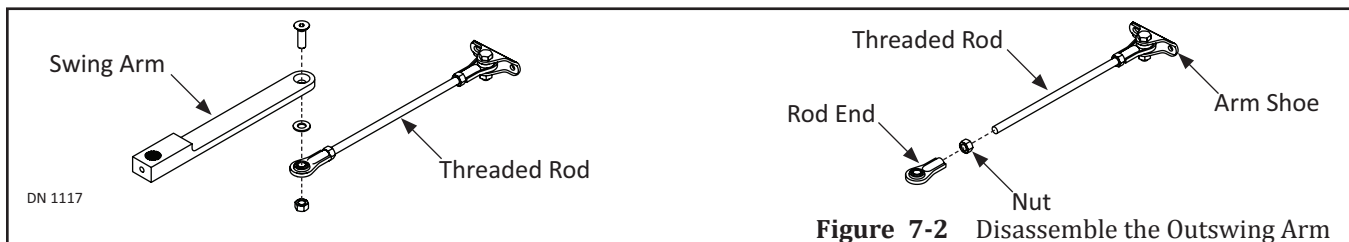

Figure 7-2 Disassemble the Outswing Arm
1. Remove the Outswing Arm from the Threaded Rod. Set aside. Please see Figure 7-2.